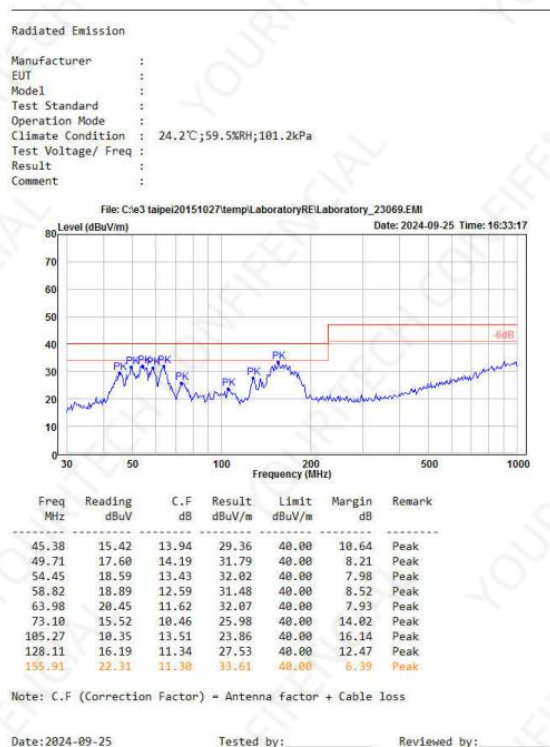

Figure 5-7: Radiation test in the vertical direction
2. Radiation test data in the vertical direction, as shown in Figure 5-7.